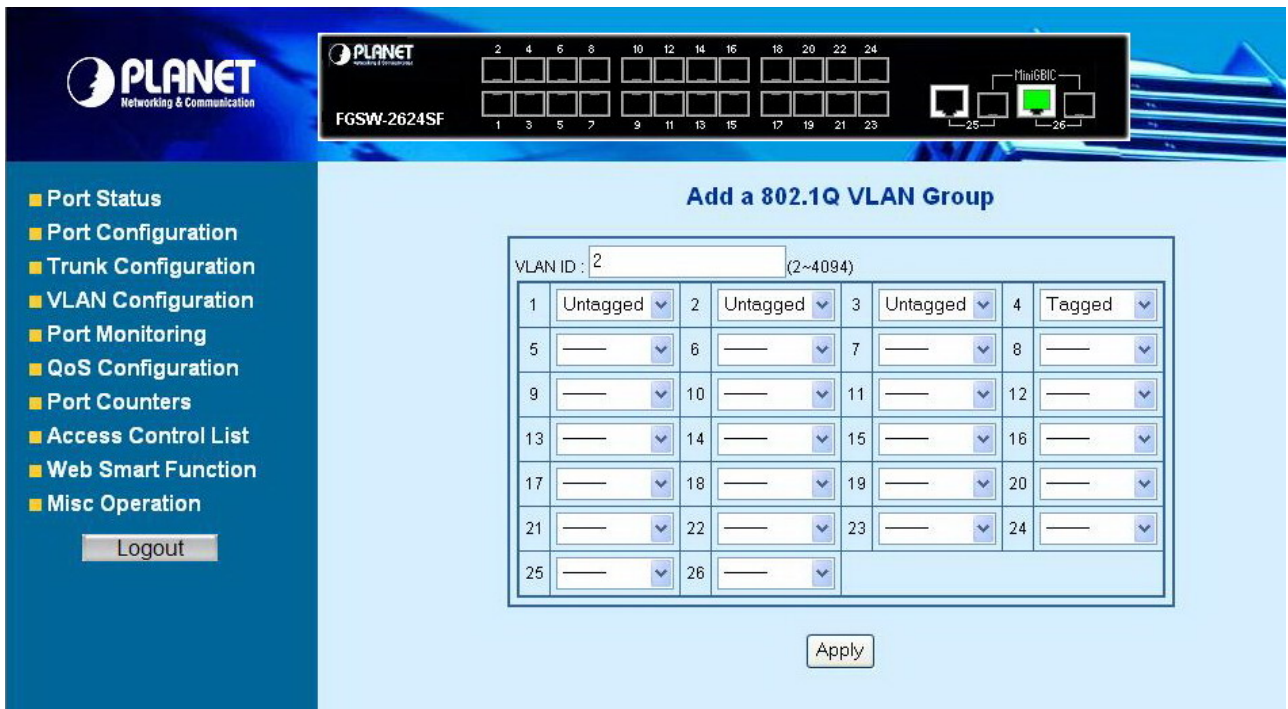

Figure 4-31 802.1Q VLAN Setting Web Page screen
2. Select specific port as member port and the screen in Figure 4-31 appears.